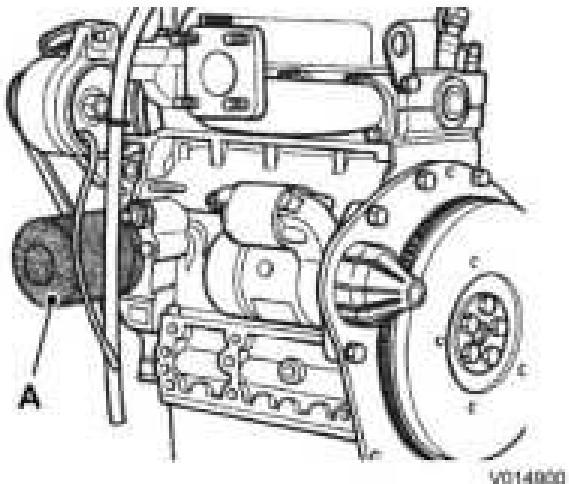
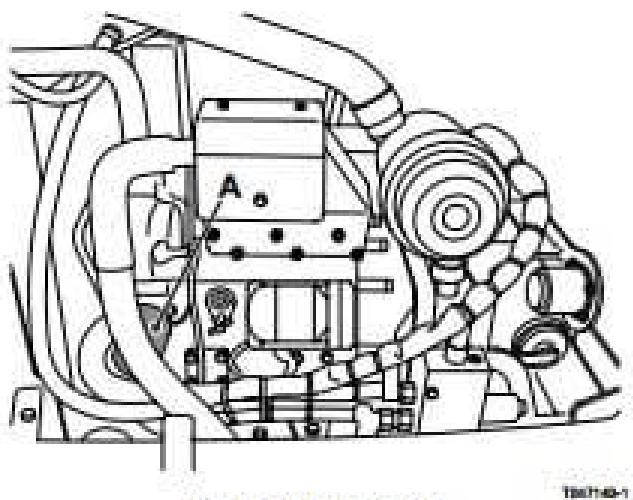
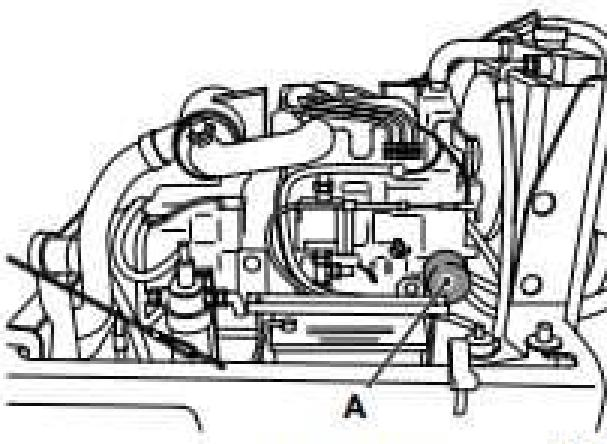

Fig 18. VMT160 Tier 2
Fig 19. VMT160 Tier 4
Fig 20. VMT200 Tier 4
- 1 Place a container of suitable size under the filter canister A. Fig 18. / 3-32, Fig 19. / 3-32, Fig 20. / 3-32.